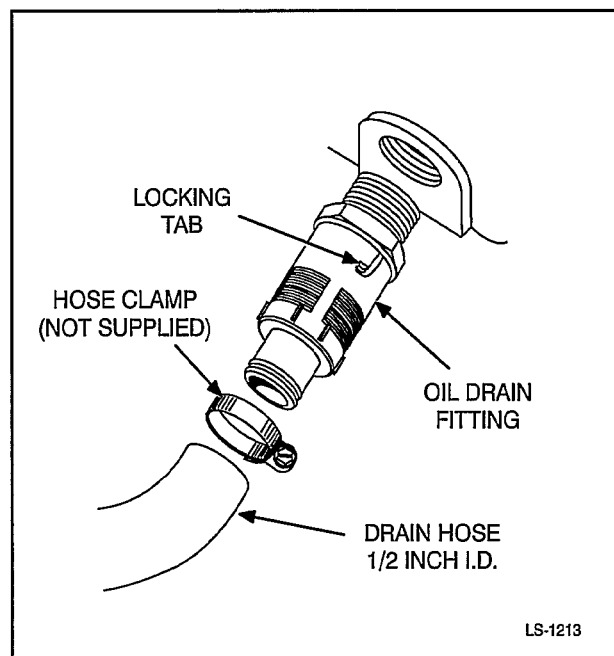

FIGURE 4. OIL DRAIN FITTING
2. Push in and turn the oil drain fitting 1/10th turn counterclockwise (Figure 4).